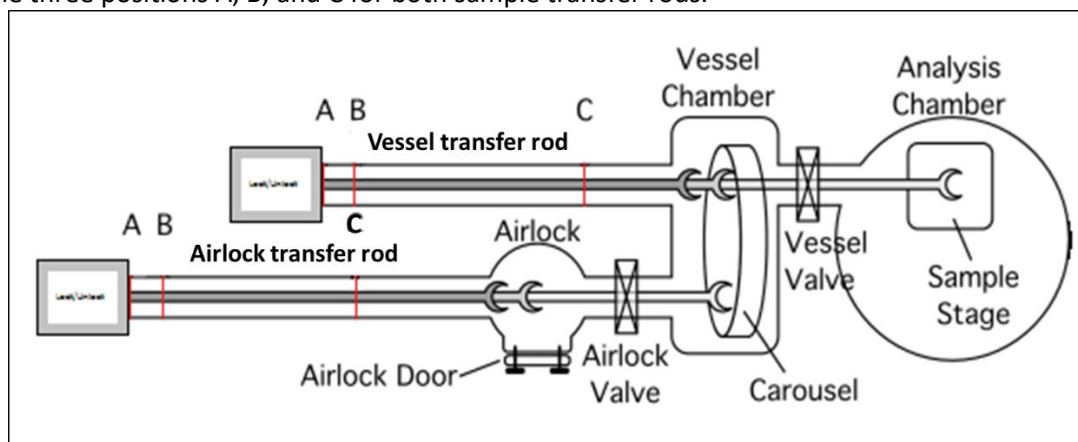

Figure 268: Schematic of the sample Airlock system
Figure 268 and Figure 269 show the introduction system configuration:
- Figure 268) and the Airlock/storage valve is closed.
- Figure 268) and attach the shuttle by moving the rod's ring from "unlock" to "lock" position (Figure 286).